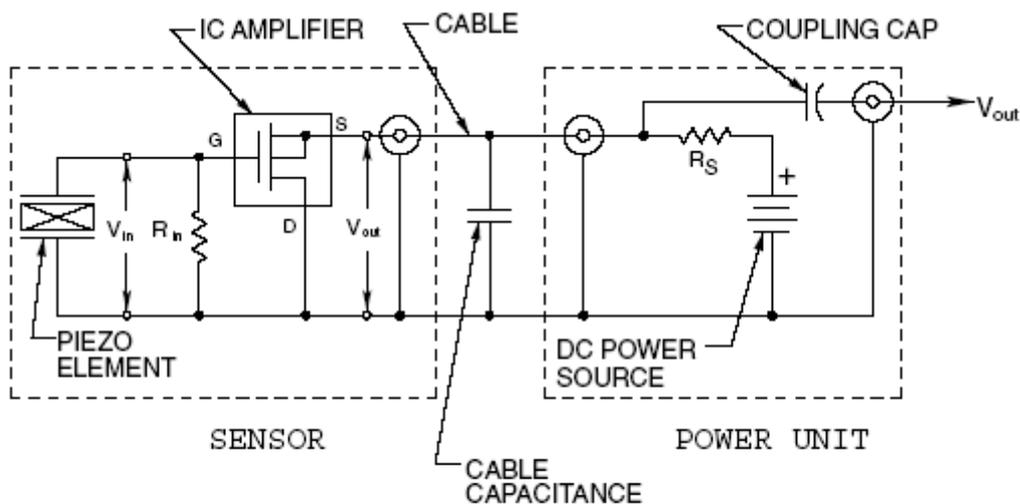

Figure 1: Unity gain LIVM sensor and power unit schematic diagram
Most Dytran sensors utilize a common drain unity gain MOSFET integrated circuit (IC) amplifier to reduce the impedance level of the self generating piezoelectric crystals by 10 orders of magnitude (see Figure 1). Some Dytran sensors have voltage gain IC's, others utilize miniature charge amplifiers. All operate on the same two-wire principle. All of the amplifiers are located within the sensor housing.
The amplifier circuit illustrated in Figure 1 is called a source follower since the source voltage essentially follows the gate voltage dynamically. This is a unity gain amplifier.
The voltage gain of the sensor amplifier shown in Figure 1 is:
Referring back to Figure 1, it can be seen that cable capacitance appears directly across the source terminal of the LIVM amplifier. Cable capacitance can become a significant factor when long cables are being used. This capacitance loads the amplifier and can cause signal distortion especially at higher frequencies. (See Figure 5a) This type of distortion is caused by “slew rate limiting” as seen in operational amplifier circuits when this specification is exceeded.